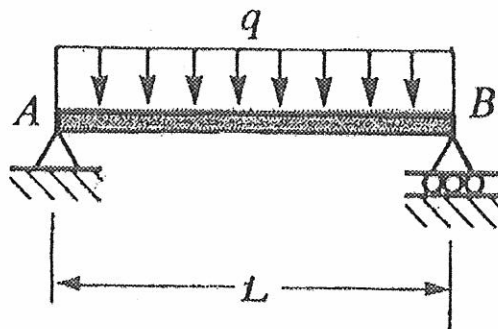

Fig. 5
- (b) A simple beam is supported by a uniform load of intensity q (Fig. 5). Please use the principle of virtual work to find the reaction force at support A. (8 %)